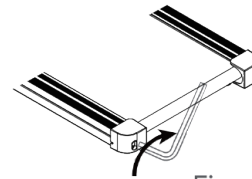

Figure 1
- If the walk belt has shifted to left, use the hex tool to turn the left idler roller screw clockwise 1/4 of a turn (refer to figure 1).